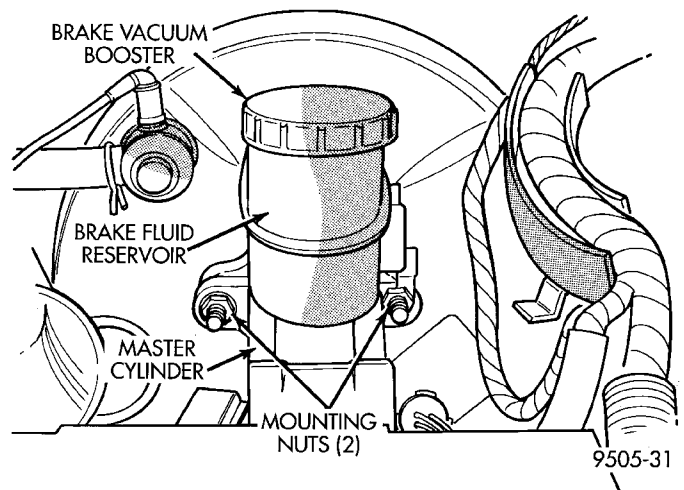

Fig. 115 Master Cylinder Mounting To Vacuum Booster
(5) Remove the 2 nuts (Fig. 115) attaching master cylinder housing to power brake vacuum booster.
(10) Install the 2 master cylinder mounting nuts (Fig. 115) and torque to 28 N·m (250 in. lbs.) torque.